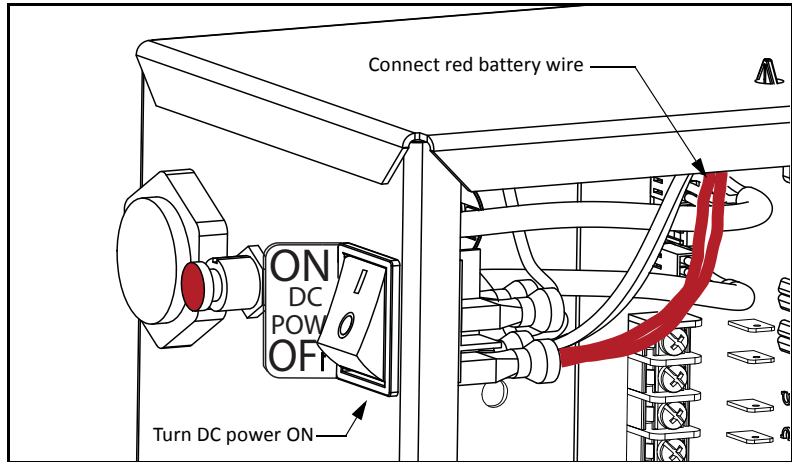

Figure 1-14.
1. Connect the red battery wire to its spade terminal. Figure 1-14.